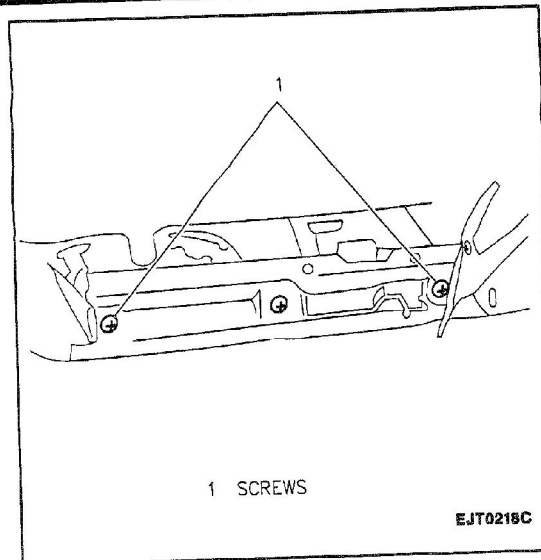

Figure 18—Instrument Panel Compartment Lower Support Screws
32. Left and right screws at bottom of instrument panel compartment support (Figure 18).